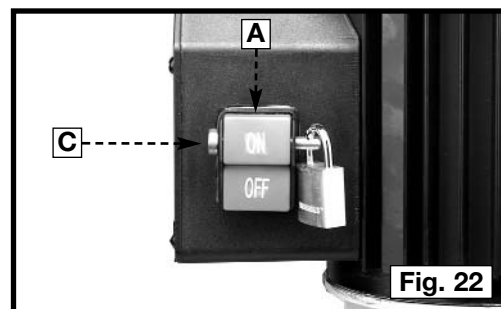

Fig. 22
When the tool is not in use, the switch should be locked in the “OFF” position to prevent unauthorized use. Insert the lockout pin (C) Fig. 22 (Delta accessory model number 50-164) through the hole in the start button (A). Place the 1/8" shank of a lock through the hole in the lockout pin and secure.